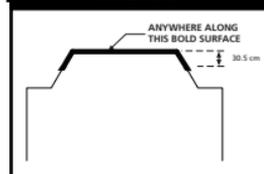

FIGURE 4
- Install Smoke Alarms on tray-shaped ceilings (coffered ceilings) on the highest portion of the ceiling or on the sloped portion of the ceiling within 30.5cm) vertically down from the highest point (see figure 4).